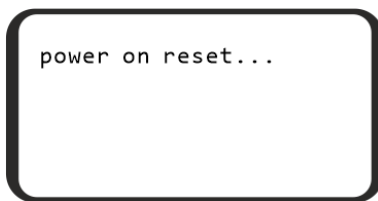

Figure 5. Initialisation screen
- When switched on, the unit performs full initialisation cycle and displays the message "Power on reset" (figure 5)